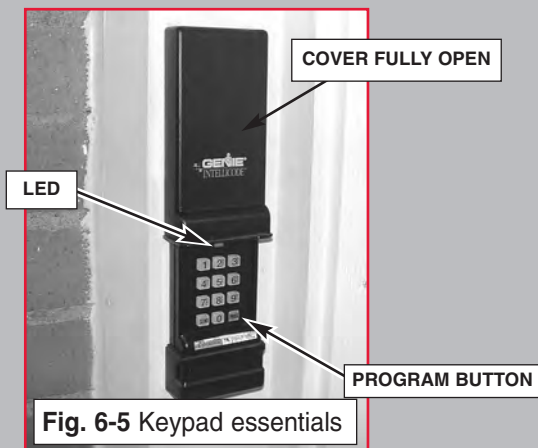

Fig. 6-5 Keypad essentials
1. Programming personal identification number (PIN) (Fig. 6-5).
2. Resetting wireless keypad (Fig. 6-5).
5. Program door operator for second PIN (Fig. 6-5 & 6-6).
6. Programming a temporary PIN (Fig. 6-5)
7. Changing PIN (Fig. 6-5).
8. Adding more doors to keypad (Fig. 6-5).
9. Programming multiple door operators (Fig. 6-5 & 6-6).